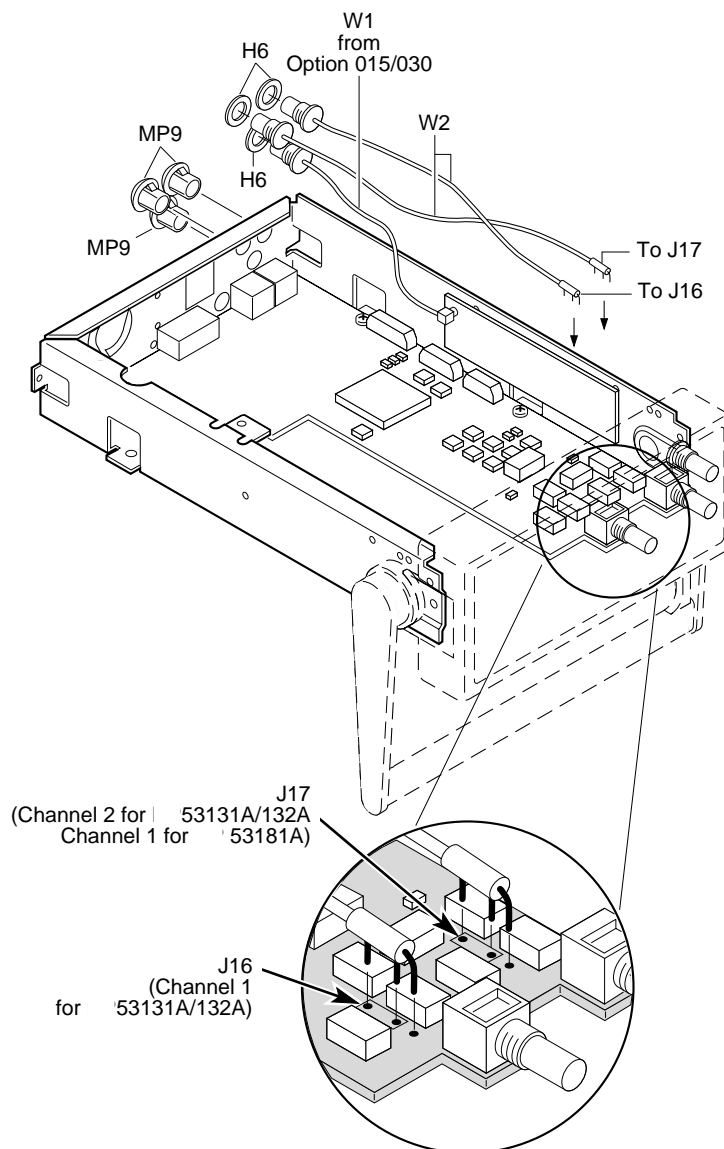

Figure 4-3B. Rear Terminals Retrofitting
- 3 Remove the end of the optional channel (Option 015/030) coaxial cable (W1) that is connected to the front-panel and insert it through the appropriate rear *INPUTS* opening (3 for Agilent 53131A/132A; 2 for Agilent 53181A) as shown in Figure 4-3B.
For the Agilent 53131A/132A solder the rear chassis **INPUTS 1** cable to J16 and **INPUTS 2** to J17. (See Figure 4-3B.)
For the Agilent 53181A solder the rear chassis **INPUTS 1** cable to J17. (See Figure 4-3B.)